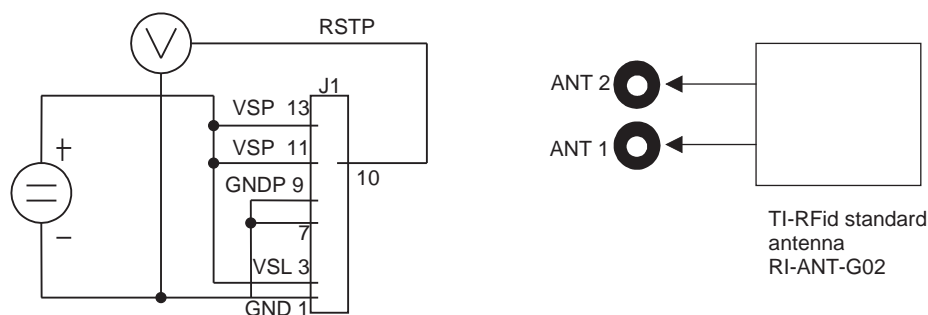

Figure F-1. Noise Testing Configuration
The test pin RSTP at connector J1 pin 10 carries an analog output voltage indicating the receive signal strength. This voltage should be measured in combination with the antenna RI-ANT-G02. The necessary set-up for this test is shown in Figure F-1. This configuration operates the RFM from a battery and has no interface line connected. As the transmitter is switched off in this configuration, a normal battery may be used. A low noise level is indicated by an RSTP voltage of less than 1.0 VDC when using antenna RI-ANT-G02.
Try the configuration shown in Figure F-1. If this configuration shows bad noise conditions (RSTP voltage more than approximately 1.0 VDC) then the problem is radiated noise.
1. When the configuration of Figure F-1 shows good noise conditions (RSTP voltage less than 1.0 VDC) then the problem is conducted noise.